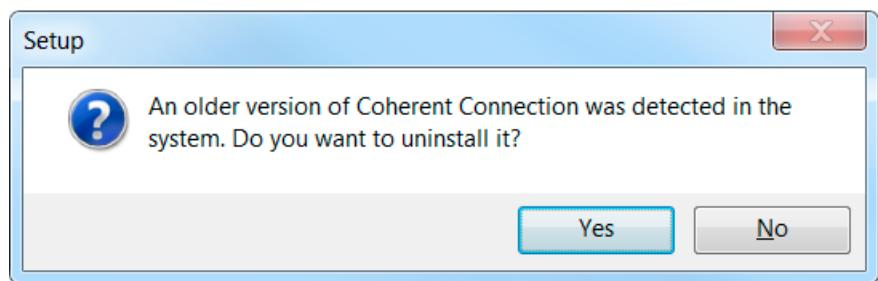

Figure 8-4. Uninstall Old Version of Software
5. If you had previously installed the Coherent Connection software, the message shown in Figure 8-4 is displayed. Click Yes to proceed.